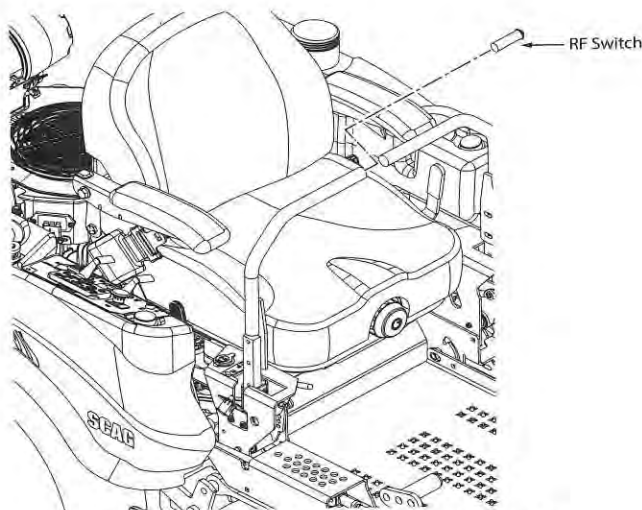

Figure 3-23. RF Switch Installation
10. Remove and retain the two (2) 3/8-16 x 1 1/4" bolts, lock washers and flat washers securing the right hand drive handle to the control lever bar.
15. Install the RF switch into the end of the right hand drive handle. See Figure 3-23. It may be necessary to add a light application of silicone to retain the switch in the handle.